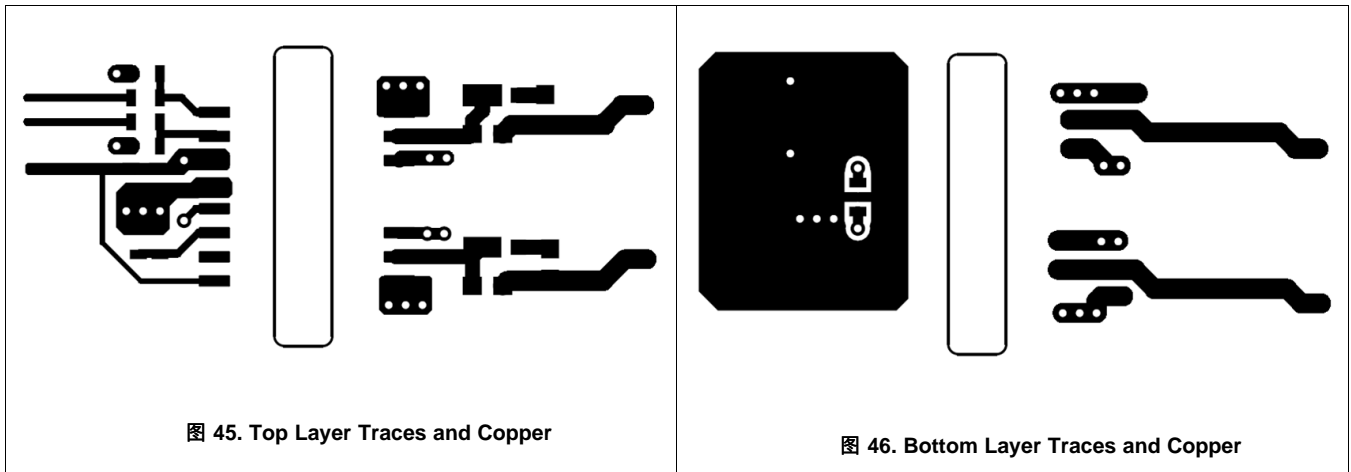

图 45. Top Layer Traces and Copper
- Increasing the PCB copper connecting to VDDA, VDDDB, VSSA and VSSB pins is recommended, with priority on maximizing the connection to VSSA and VSSB (see 图 45 and 图 46). However, high voltage PCB considerations mentioned above must be maintained.
图 45 and 图 46 shows top and bottom layer traces and copper.